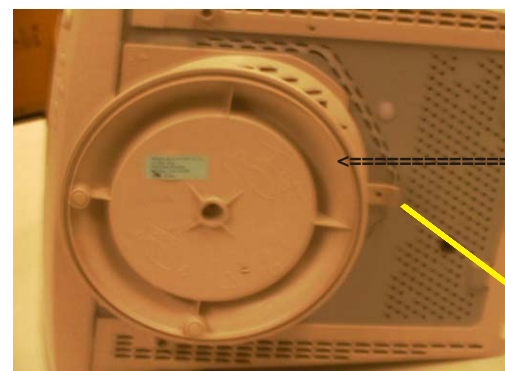

Fig. 4
2. Remove pedestal as shown in Fig. 4.